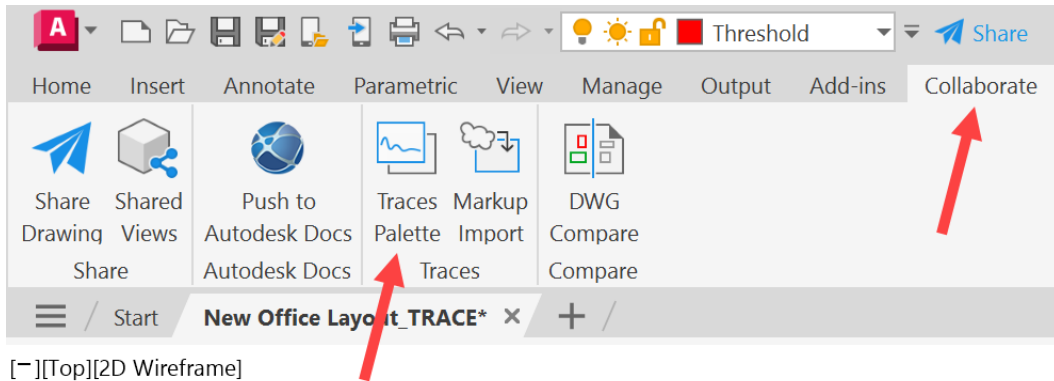

Figure 16.32: The Traces Palette icon on the Traces panel
3. Click on the **Collaborate** tab on the AutoCAD ribbon and click on the **Traces Palette** icon on the **Traces** panel, as shown in *Figure 16.32*.